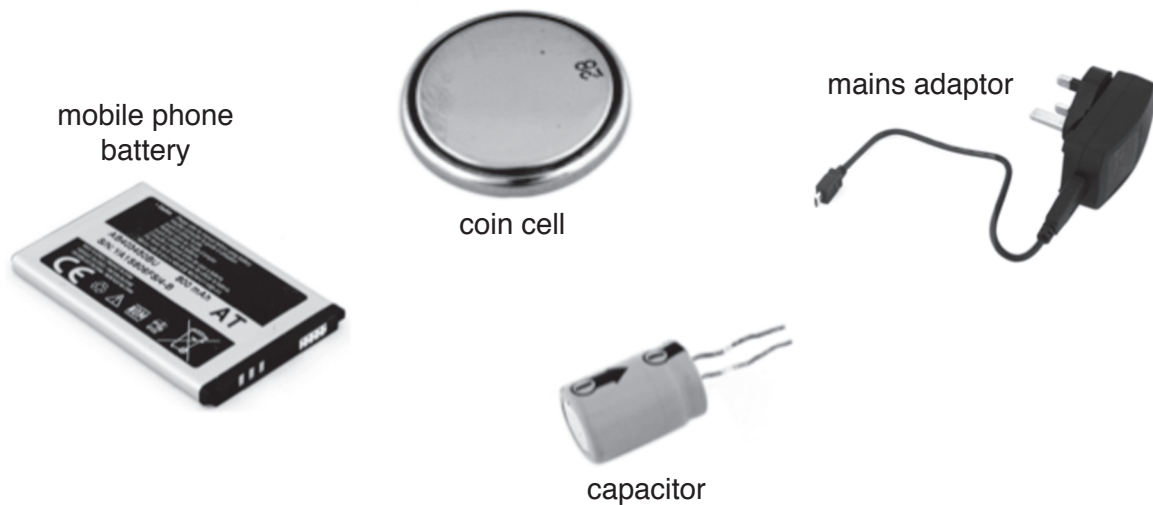

Fig. 11
- 19 (a) Fig. 11 shows four power sources that can be used for electronic projects.
Circle the **two** power sources in Fig. 11 that can have their charge replaced.